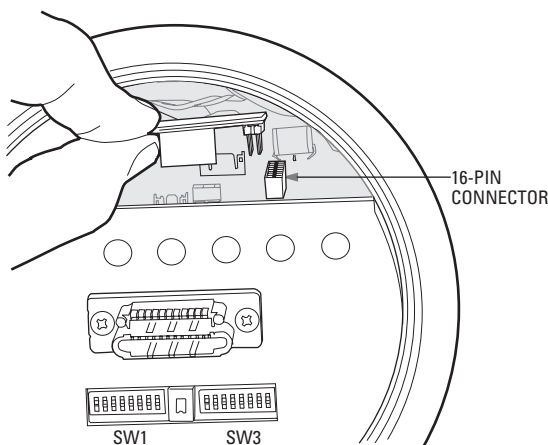

Figure 19. Installing the TXB-B into the ExSite
5. Install the TXB-B board on the power module (refer to Figure 19):
7. Set the DIP switches on the ExSite system (refer to Figure 19 for switch location):